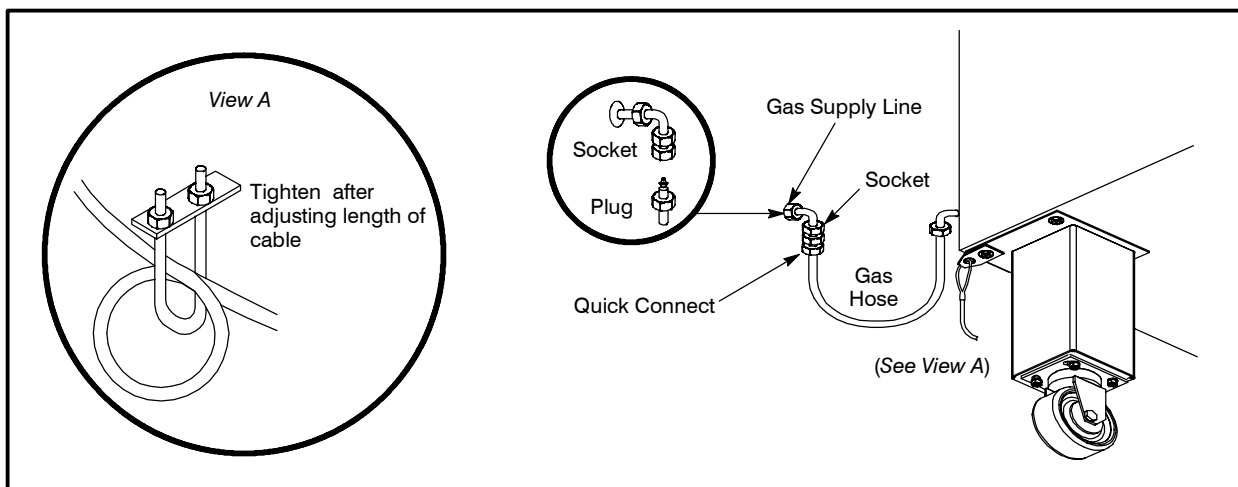

Figure 17
- The restraint should be short enough to prevent any strain on the connector. See Figure 17 View A for length adjustment detail.